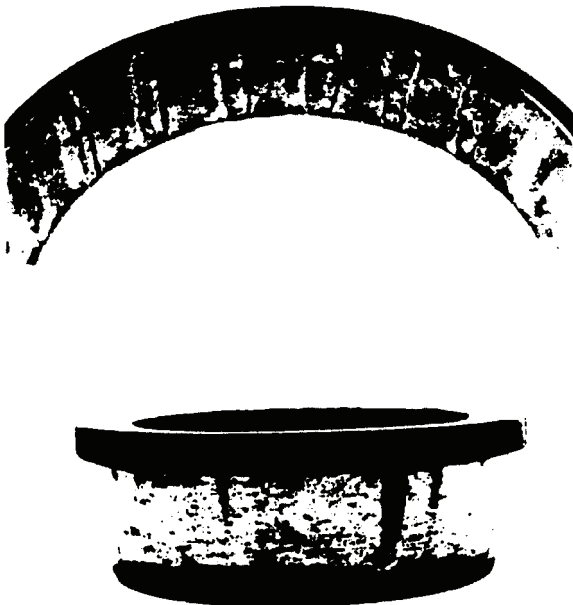

Figure 46.
- (5) Spalling or flaking on the bearing cup and/or cone surfaces. Refer to Figure 46.